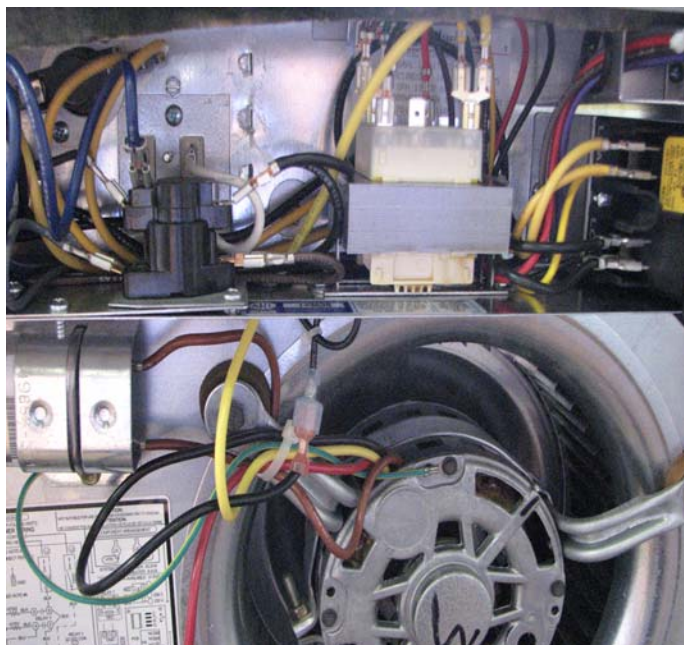

Fig. 1 Speed tap wire & Transformer electrical connections
- 4) Slide the heater assembly into the blower access opening of unit so that the mounting plate of the heater is with the base unit. Secure with (2) sheet metal screws provided.
- 5) Route blower motor power leads up through hole in bottom of heater package. Connect **YELLOW common** wire to piggyback common terminal on transformer (see fig.1).
- 6) Connect **BLACK (HI)** or **RED (LOW)** speed tap wire to the quick connect male tab from the heater (see fig. 1). See equipment manual for proper speed tap selection. Wire tie any loose wires close to the blower.